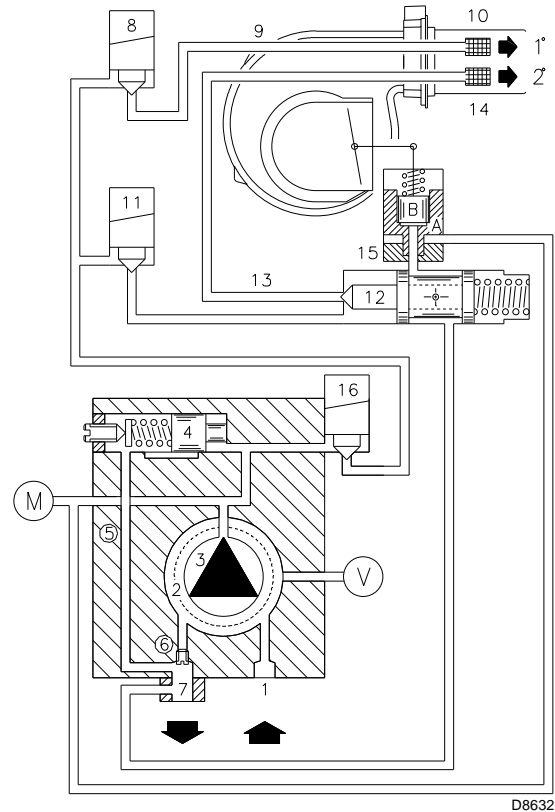

Fig. 29
- When the temperature or the pressure increases until the control device TR opens, solenoid valve 11)(Fig. 29) closes, and the burner passes from the 2nd to the 1st stage of operation.
- The burner stops when the demand for heat is less than the amount of heat delivered by the burner in the 1st stage. In this case, the remote control device TL opens, solenoid valve 8) - 16)(Fig. 29) closes, the flame immediately goes out. The fan's air damper valve closes completely.
When the solenoid valve 11)(Fig. 29) de-energizes, the piston 12)(Fig. 29) closes the passage to the 2nd stage nozzle and the fuel contained in the cylinder 15), piston B, is discharged into the return piping 7).